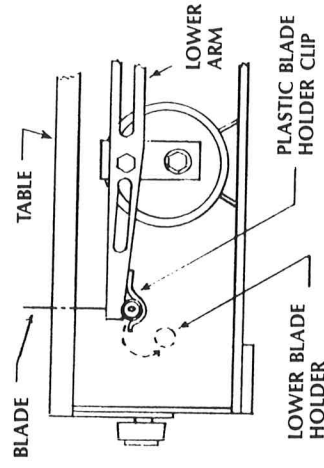

Fig. 7
Step 3: Located in the “V” notch of the lower arm is a barrel shaped blade holder. Holding the blade holder by the ends (with your thumb and first finger) remove it and the blade together by sliding the blade holder forward, it will simply snap out of the plastic blade holder clip. This allows the blade to slide forward out of the slot in the arm. When the blade is free of the lower arm, slide the blade holder to the side or down in front of the plastic blade holder clip to remove it (see fig. 7).